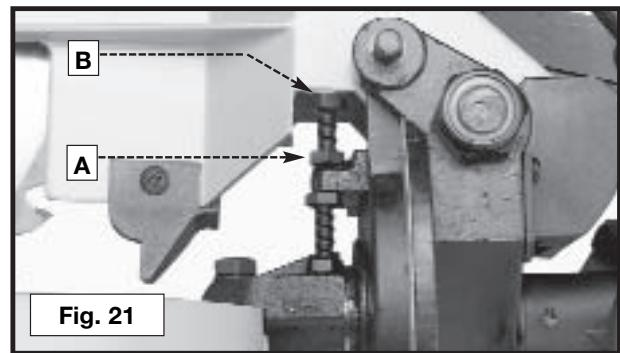

Fig. 21
1. The downward travel of the saw blade should be limited to prevent the saw blade from contacting any metal surfaces of the machine. This adjustment is made by loosening the locknut (A) Fig. 21, and turning the adjusting screw (B) in or out.
3. After the downward travel of the saw blade has been adjusted, tighten the locknut (A).